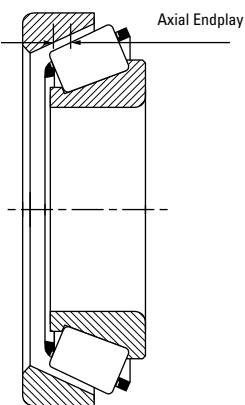

Fig. 14. Internal clearance – endplay.
- **Endplay (EP)** – An axial clearance between rollers and raceways producing a measurable axial shaft movement when a small axial force is applied – first in one direction then in the other, while oscillating or rotating the shaft. See fig. 14.
- **Preload (PL)** – An axial interference between rollers and raceways such that there is no measurable axial shaft movement when a small axial force is applied – in both directions – while oscillating or rotating the shaft.